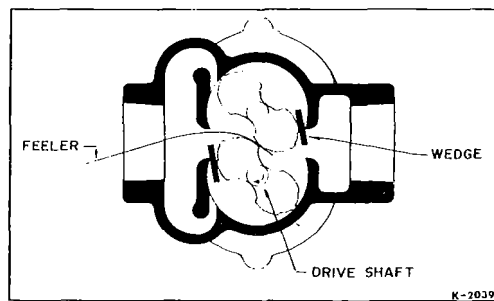

Figure 5. Wedging of Impellers, Viewed From Gear End
17. Install new driving gear after first positioning impellers correctly in relation to each other as shown in Figure 5. With both impellers at 45°, insert a long metal feeler gauge between the two adjacent lobes and clamp it there by pushing small hardwood wedges between the back sides of these lobes and the cylinder openings. Feeler gauge thickness should be a middle value taken from the last column in Table 8. Now install the gear, observing tooth match marks if present, and tighten the nut lightly.